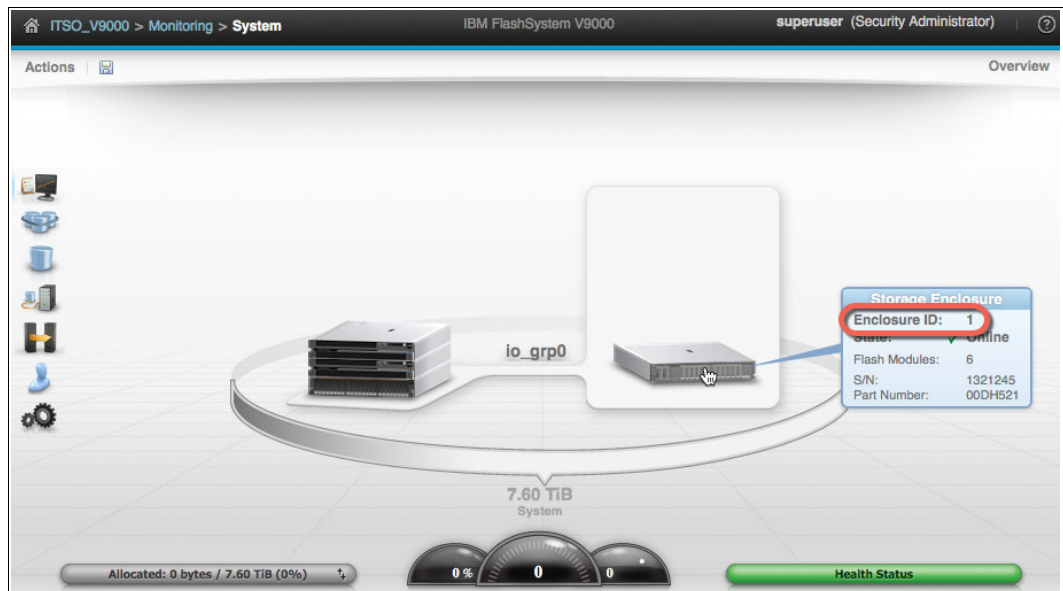

Figure 13-33 Confirm the correct enclosure
8. Return to the GUI and use the system panel to complete removing the storage enclosure. Confirm that you are working with the correct enclosure by hovering over the device as shown in Figure 13-33.